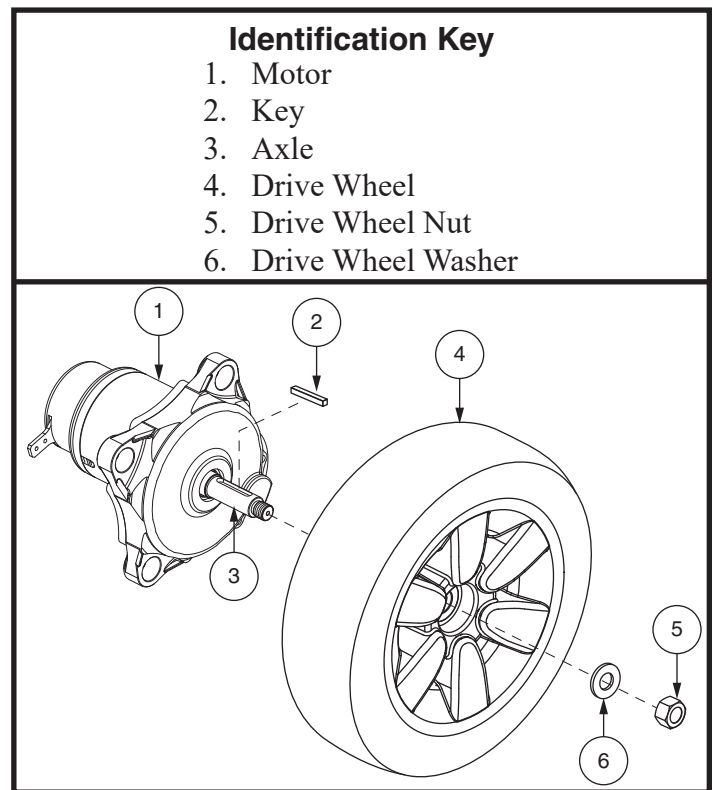

Figure 23. Drive Wheel Removal
6. Remove the drive wheel nut and washer from the axle. See figure 23.
12. Reinstall the drive wheel nut and washer onto the axle and tighten. See figure 23.